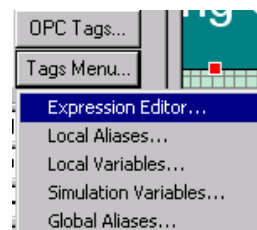

Figure 5.14
3. To write the expression click **Tags Menu→Expression Editor**, as shown in **Figure 5.14**.